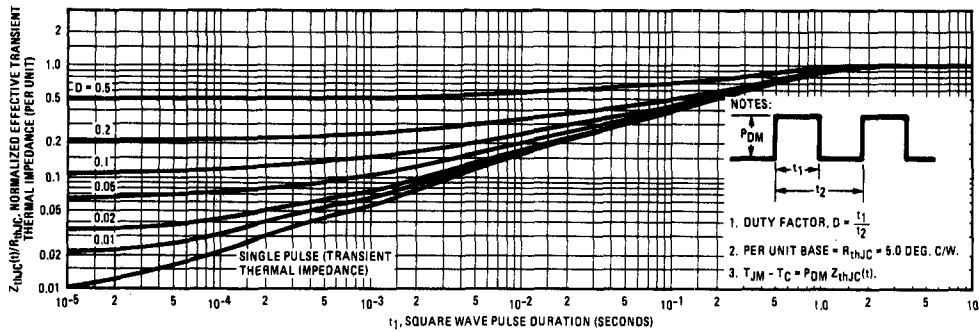

Fig. 5 - Maximum effective transient thermal impedance, junction-to-case vs. pulse duration.
① T_J = 25°C to 150°C.
② Pulse Test: Pulse width < 300μs, Duty Cycle < 2%.
③ Repetitive Rating: Pulse width limited by max. junction temperature. See Transient Thermal Impedance Curve (Fig. 5).